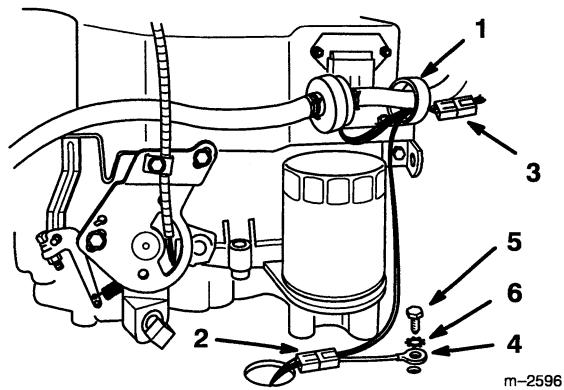

**Figure 5**
1. Place throttle control lever in FAST position.(Fig. 5).
2. Hook wire Z-bend into hole of speed control lever (Fig. 5).
3. Loosen cable clamp screw allowing cable installation, but do not tighten (Fig. 5).